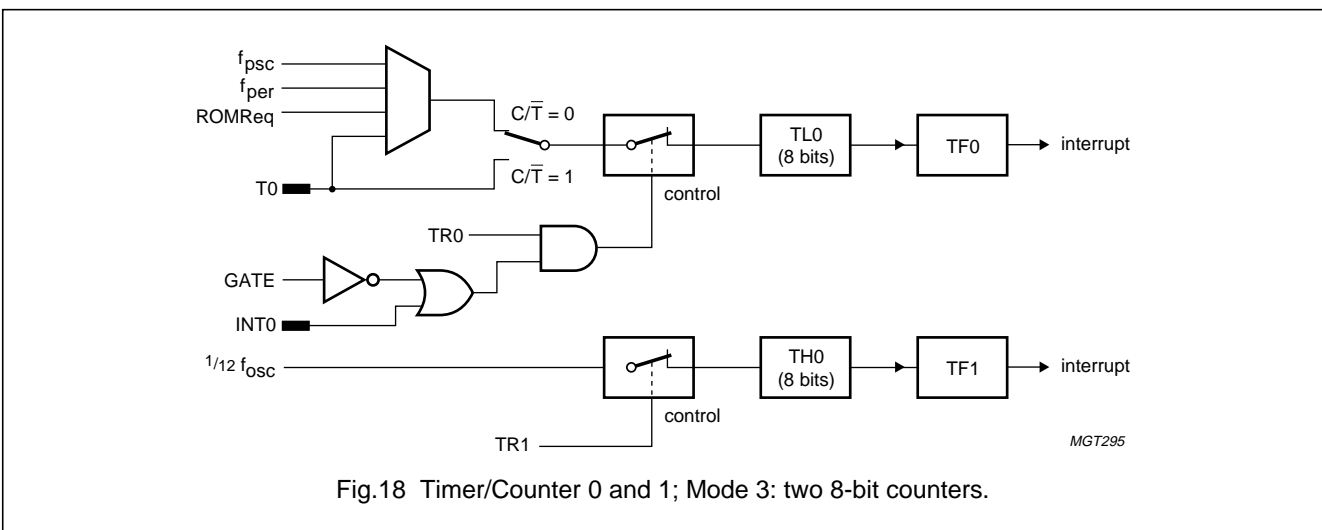

Fig.18 Timer/Counter 0 and 1; Mode 3: two 8-bit counters.
- Mode 3** Timer 1 in Mode 3 simply holds its count. The effect is the same as setting $TR1 = 0$. Timer 0 in Mode 3 establishes TL0 and TH0 as two separate counters. The logic for Mode 3 on Timer 0 is shown in Fig.18. TL0 uses the Timer 0 control bits: C/\bar{T} , $GATE$, $TR0$, $INT0$, and $TF0$. TH0 is locked into a timer function and takes over the use of $TR1$ and $TF1$ from Timer 1. Thus, TH0 now controls the Timer 1 interrupt. Mode 3 is provided for applications requiring an extra 8-bit timer on the counter. When Timer 0 is in Mode 3, Timer 1 can be turned on and off by switching it out of and into its own Mode 3 or in any application not requiring an interrupt.